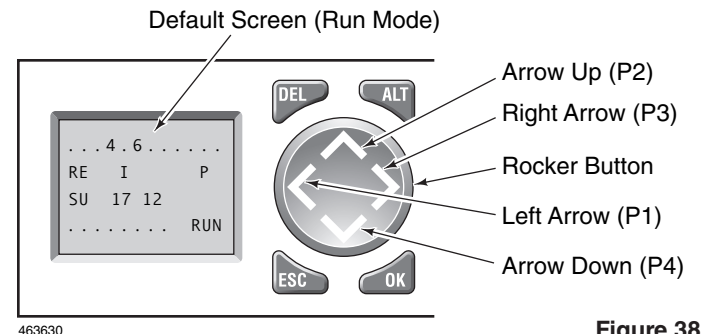

Figure 38
1. Using the Rocker button, press Right Arrow (P3) until the desired menu is selected (FULL OPEN or PARTIAL OPEN). See Figures 38 and 39.